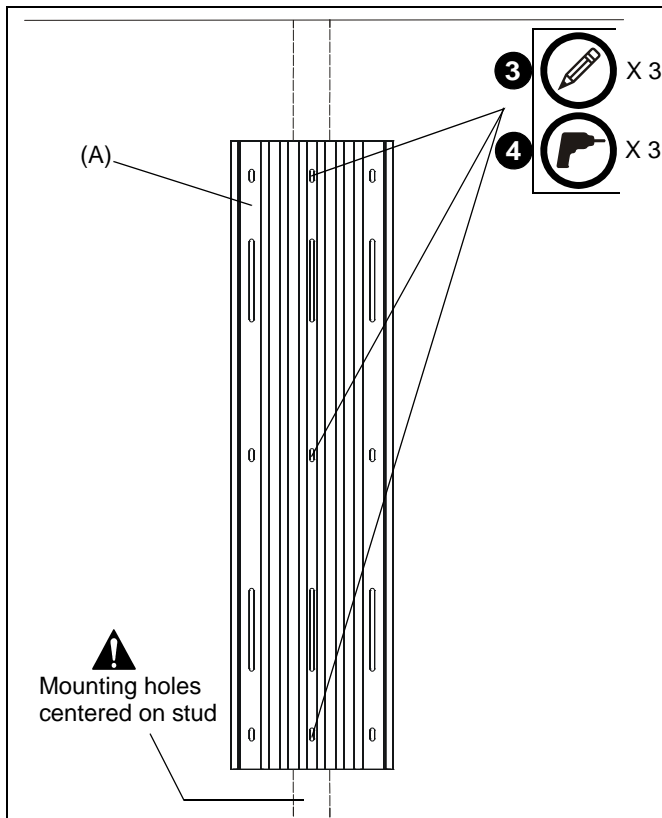

Figure 10
3. Align the middle mounting holes on mount with stud making sure mounting holes are centered on stud. (See Figure 10)
4. Using wall track accessory (A) as a template, mark location of three mounting holes on wall. (See Figure 10)